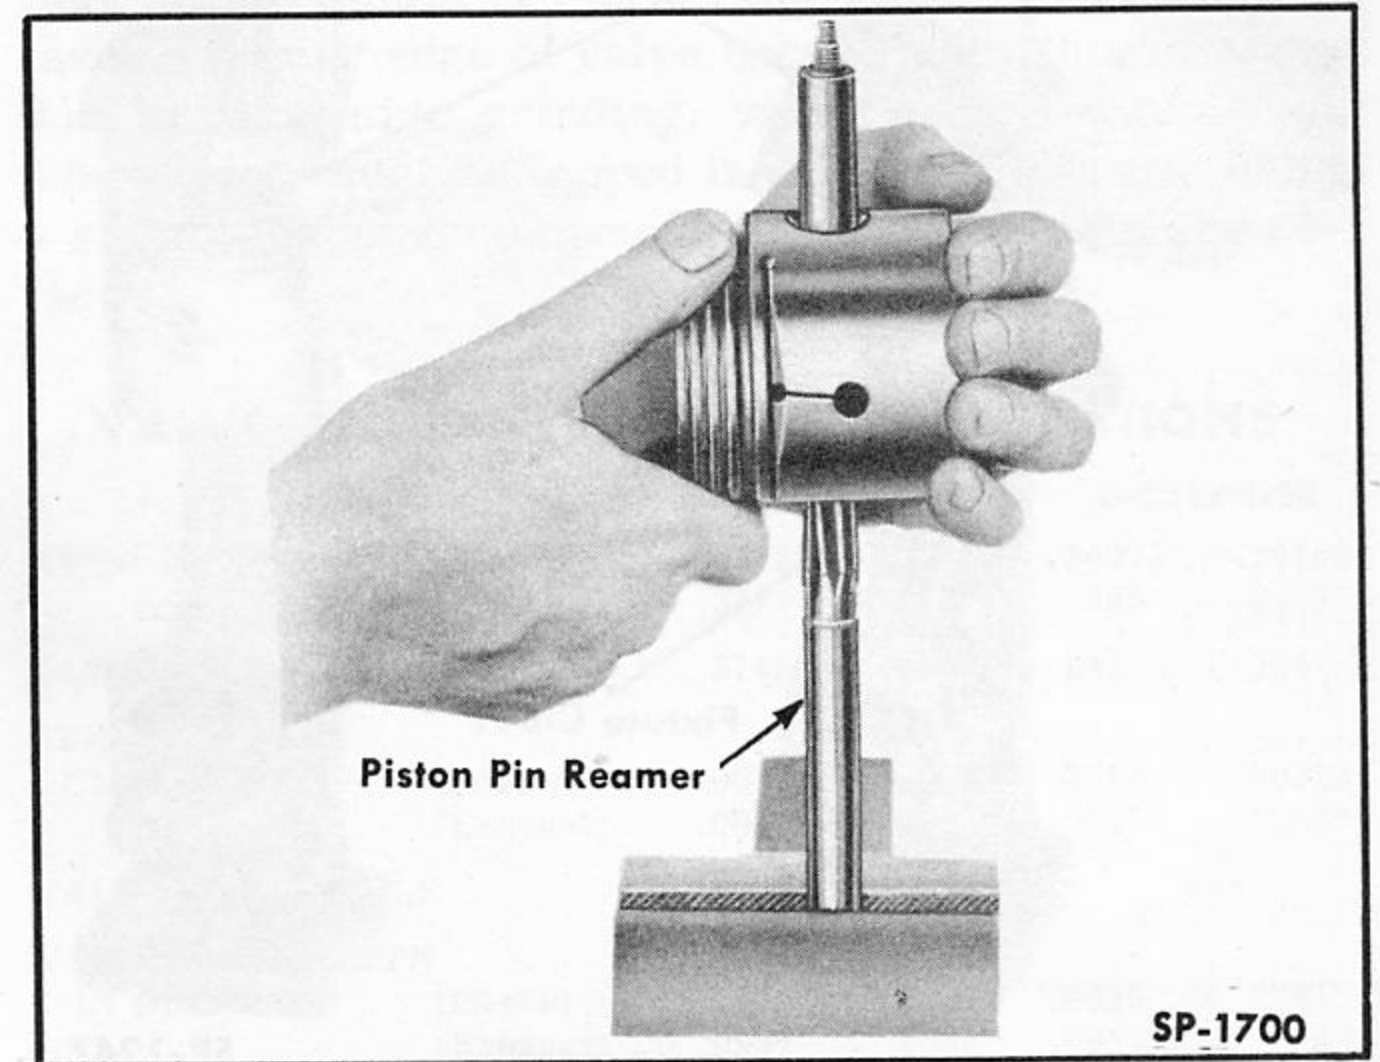

Fig. 36—Reaming Piston Pin Bore
2. Check piston pin fit in piston. If pin falls through by its own weight, pin bore must be reamed to accommodate an oversize piston pin (Fig. 36). Use Piston Pin Reamer DD-82-1 on four cylinder models and C-26 on six cylinder models.